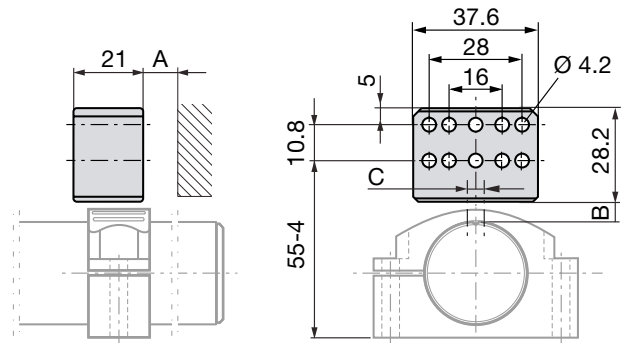
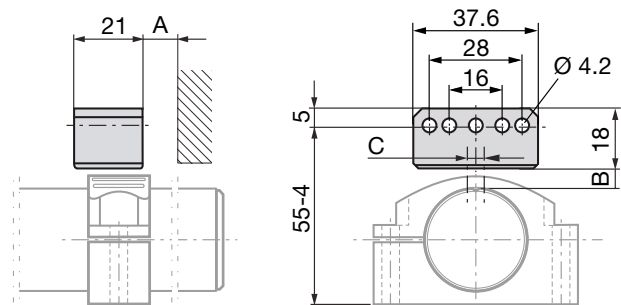

Fig. 4-1: Dimensions and spacing with magnet BTL6-A-3800-2
Fig. 4-2: Dimensions and spacing with magnet BTL6-A-3801-2
- Distance A between the magnet and parts made of magnetizable material must be kept to at least 10 mm (see Fig. 4-1 and Fig. 4-2).
- For distance B between the magnet and the BTL and for the center offset C (see Fig. 4-1 and Fig. 4-2) the following values must be maintained:
Tab. 4-1: Distance and offset for magnets (see Fig. 4-1 and Fig. 4-2)